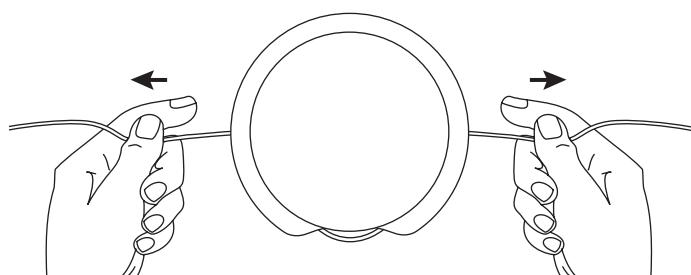

Fig. 21
3. Pull the ends through making sure that the ends are of equal length and the middle of the line is centered between the insertion holes (Fig. 21).